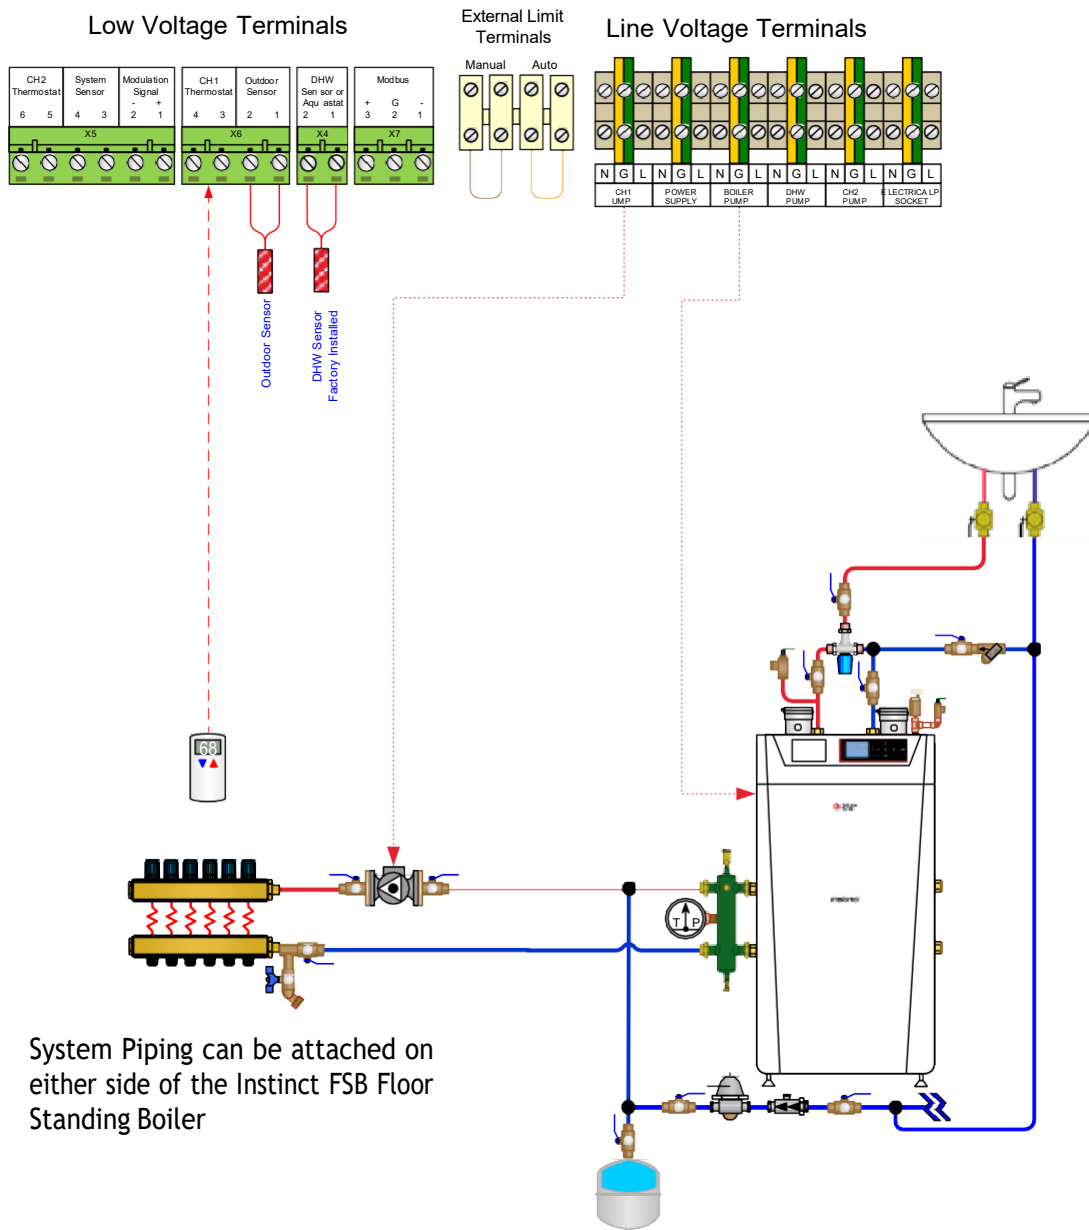

Fig. 17 - Instinct FSB Combi - System Piping - Single Zone with Single Circulator
*Fig. 17 on page 28* illustrates a single zone system utilizing the boiler circulator as the system circulator.
See Fig. 15 on page 26 through Fig. 17 on page 28, for recommended piping arrangements based on various applications. Size the piping and system components required in the space heating system using recognized design methods.
Fig. 17 on page 28 illustrates a single zone system utilizing the boiler circulator as the system circulator.